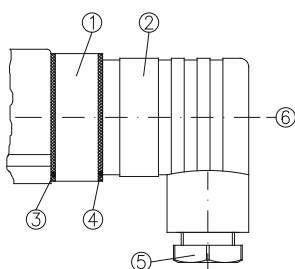

Fig. 5
- ☞ Loosen the central screw ⑥ M3x35 and disconnect the cable socket ② from the connector ① (→ Fig. 5). Pull the central screw ⑥ out of the cable socket ②.